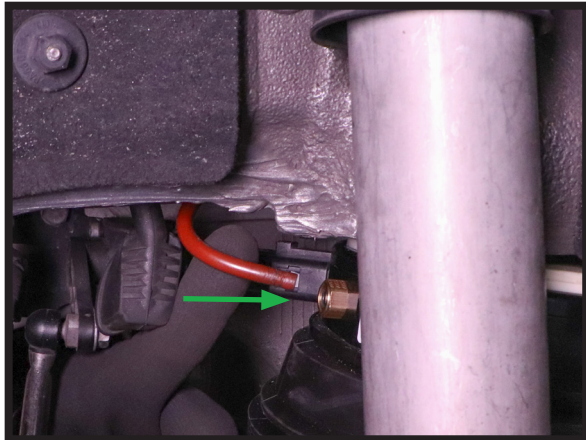

FIGURE 14
4. INSTALL THE AIR LINE BY PUSHING THE LINE INTO THE FITTING UNTIL IT IS FIRMLY SEATED. (FIGURES 14, 15)